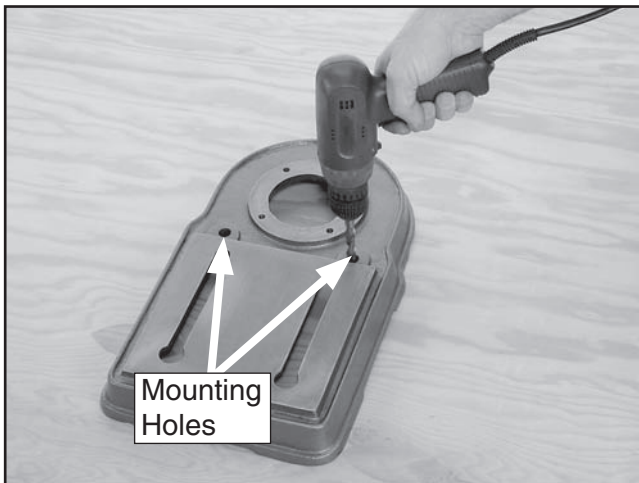

Figure 21. Using holes as a drilling guide.
2. Using holes in the base as a guide (**Figure 21**), drill and bolt the base to the bench top using lag bolts, or hex bolts, flat washers, and hex nuts.